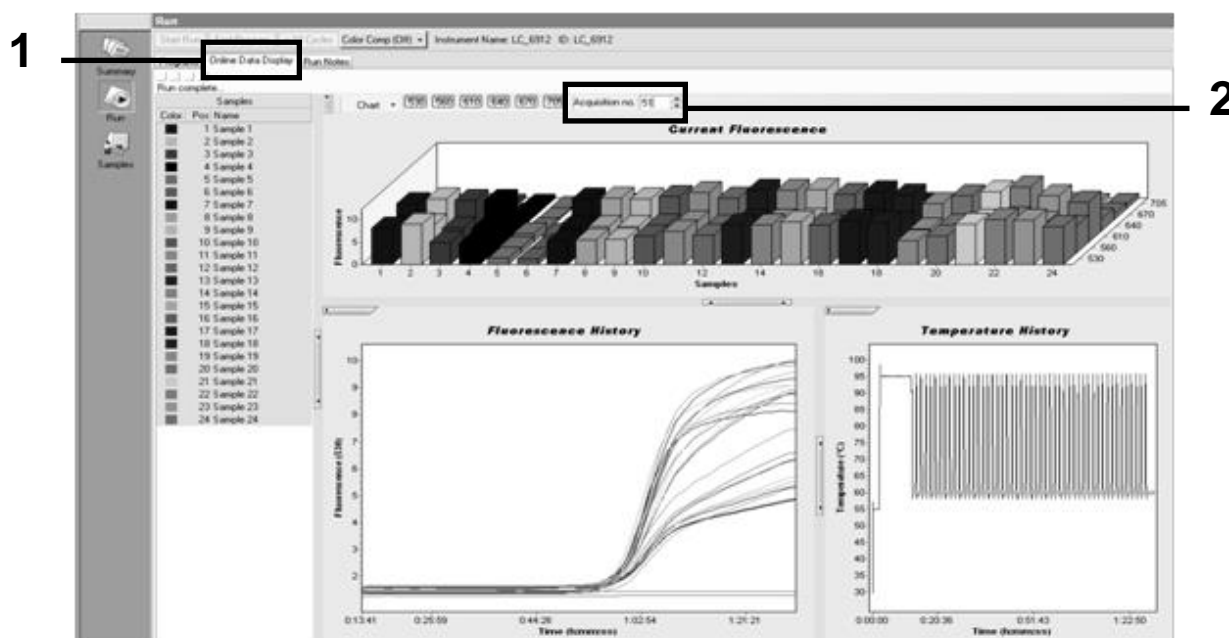

Figure 29. Results and history in Online Data Display.
- At the end of the amplification run, click the tab for “Online Data Display” (Figure 29). Open the display menu on the top left of the “Current Fluorescence” window, then write 51 in “Acquisition no.” .